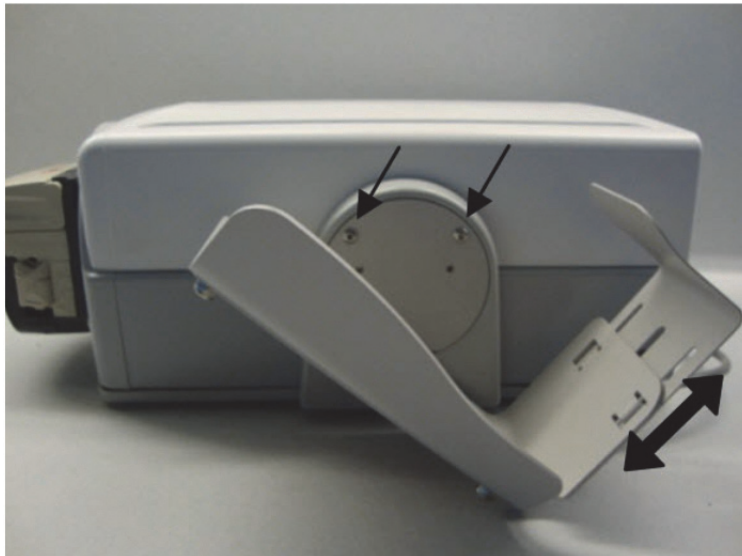

Figure 3
Place the MEDIVATORS® ENDO STRATUS® Irrigation Pump on the base tray and install the (2) long screws using the large hex key. See figure 3.